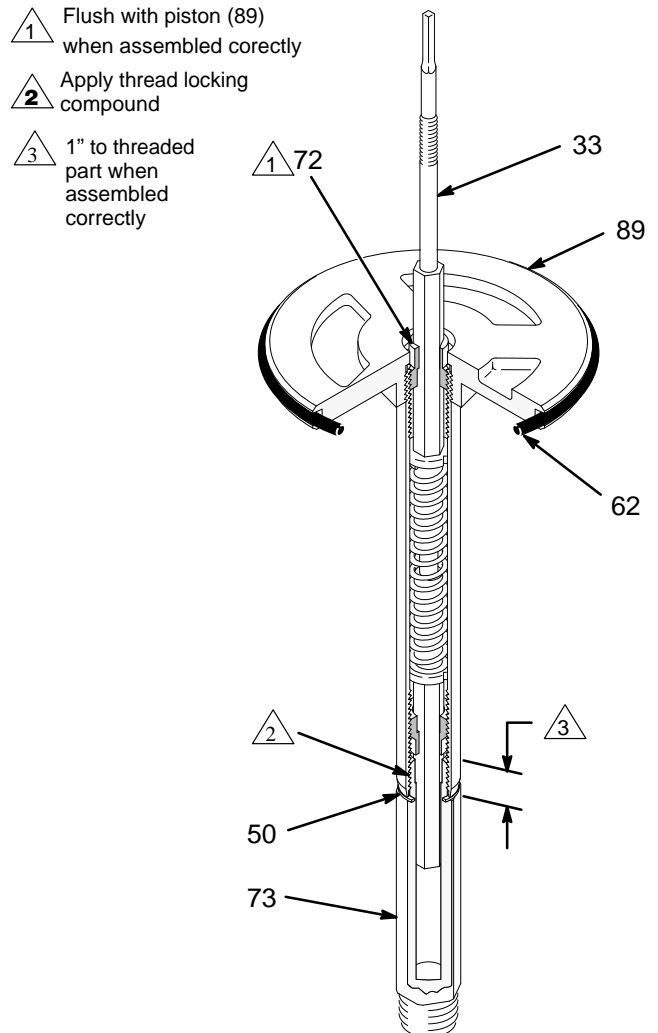

Fig 8
2. Screw the bottom socket (71) into the piston rod (90) the number of turns you counted in Step 16, above. The end of the socket should extend 1/8 in. (3 mm) from the piston (89). Slide the trip rod into the piston. Install the top socket (72), turning it clockwise until the socket is flush with the top of the piston; the bottom socket should be 1 in. (25 mm) into the piston rod. See Fig 8.